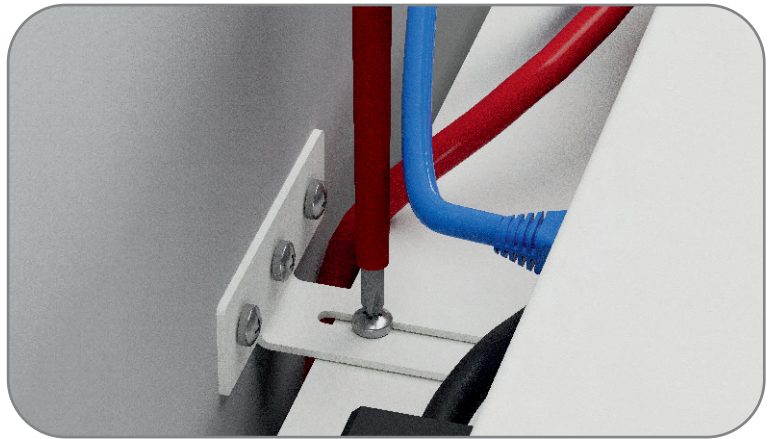

Figure 7.17
**STEP 17:** The fixing apparatus is mounted onto the battery at the desired level, as shown in Figures 7.17 and 7.18.